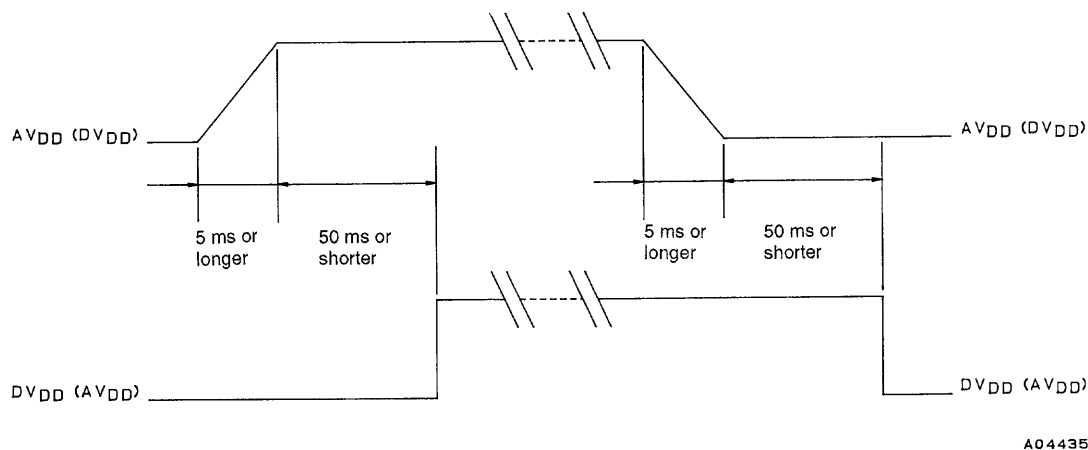

Figure 2
- If the time difference exceeds 3 ms, the rise (fall) time of the power supply that rises (falls) first must be at least 5 ms, and the time difference must be under 50 ms. (See Figure 2.)